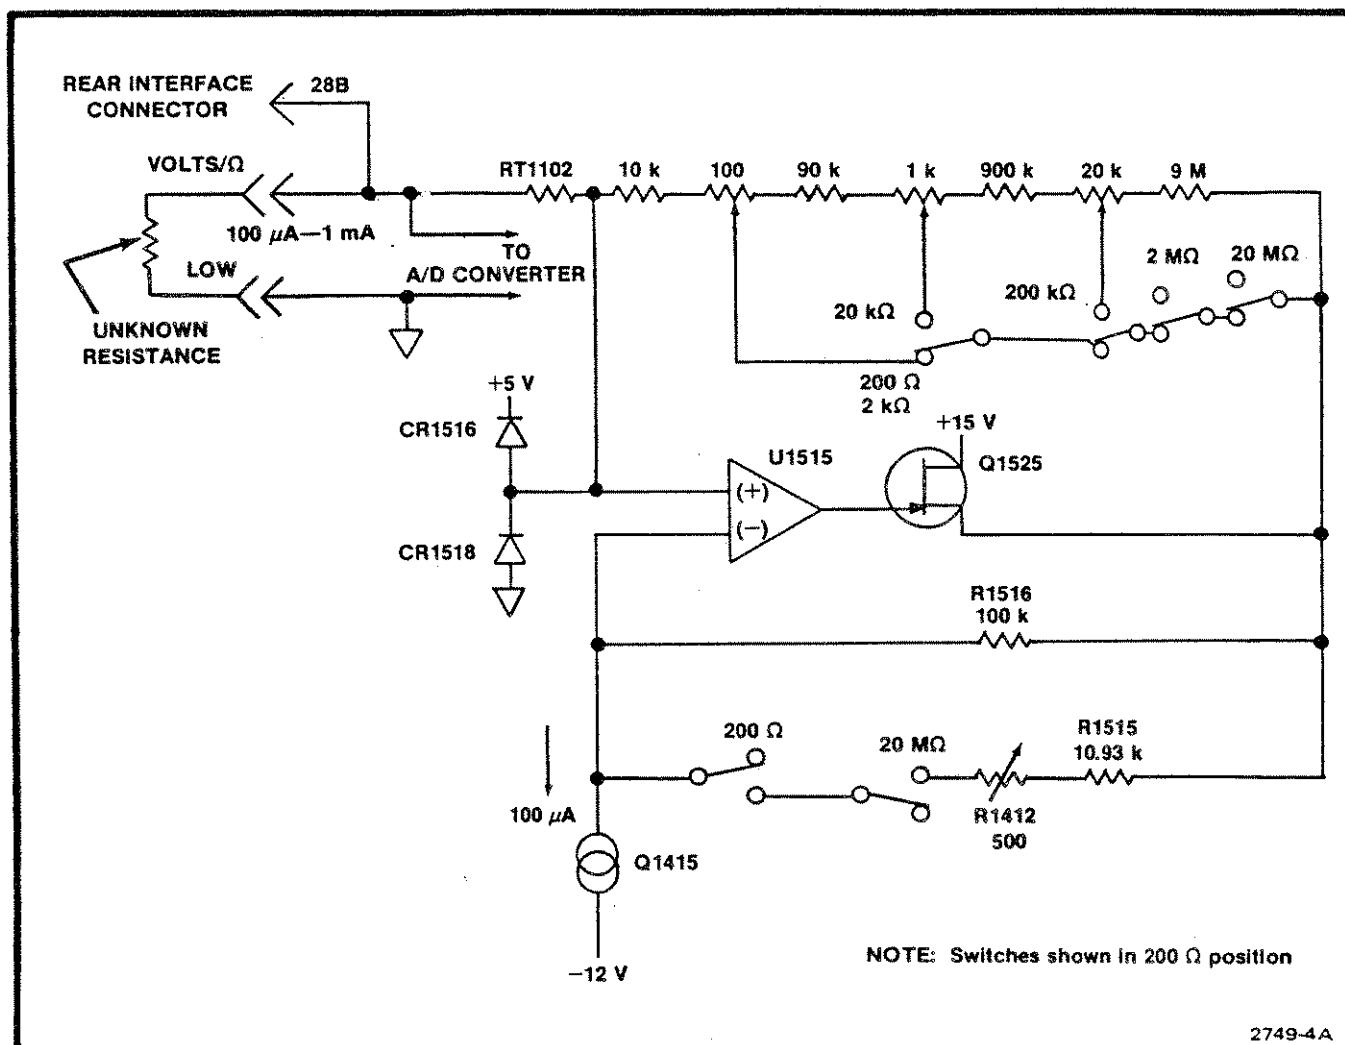

Fig. 3-6. Simplified ohms converter diagram.
### Ohms Converter ① (Refer to Fig. 3-6)